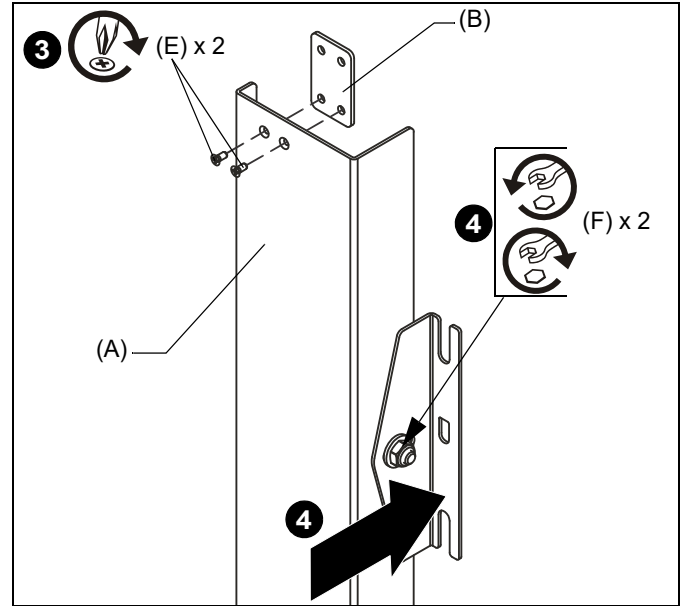

Figure 3
3. **OPTIONAL:** Connect one end of the backing plate (B) to the lower side cover (A) using two 4-40 x 1/4" Phillips flat head screws (E). (See Figure 3)
4. Loosen and adjust all the mounting brackets (C) to the maximum extension, and tighten hex nut (F). (See Figure 3)